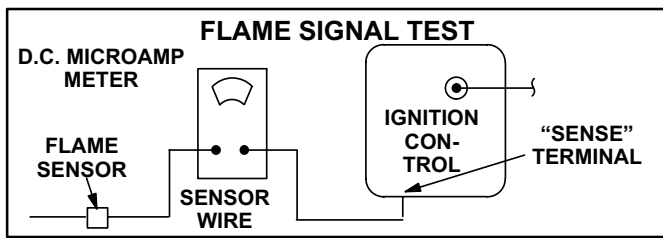

FIGURE 14
- 1- Place meter in series between ignition control and sensor wire. Connect the positive (+) lead of meter to the ignition control sensor connection and the negative (-) lead of the meter to the sensor wire. See figure 14.